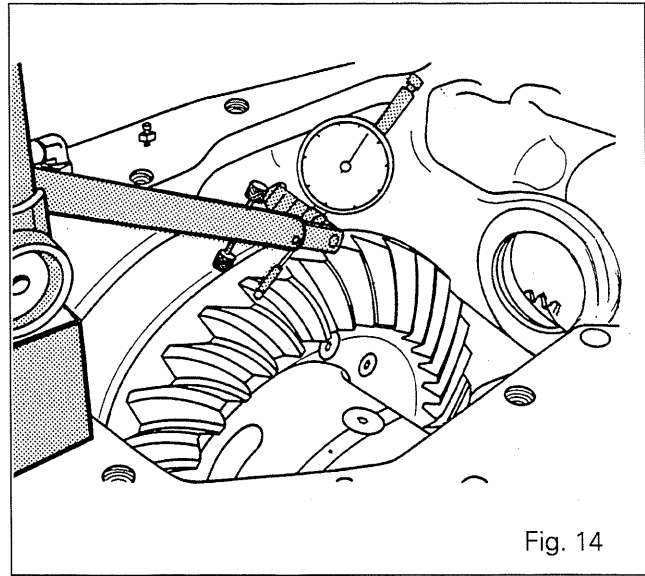

Fig. 14
71. Place the tip of the dial gauge on a tooth on the crown wheel (Fig. 14).
**Note:** Carry out this operation on four diametrically opposite points on the crown wheel. J2 is obtained according to the machining tolerances. If this clearance exceeds the maximum tolerance after shimming P2 has been carried out, the thickness of the deflector shim [11] can be reduced. Place a shim of suitable thickness between the bearing cup (16) and the housing (17).